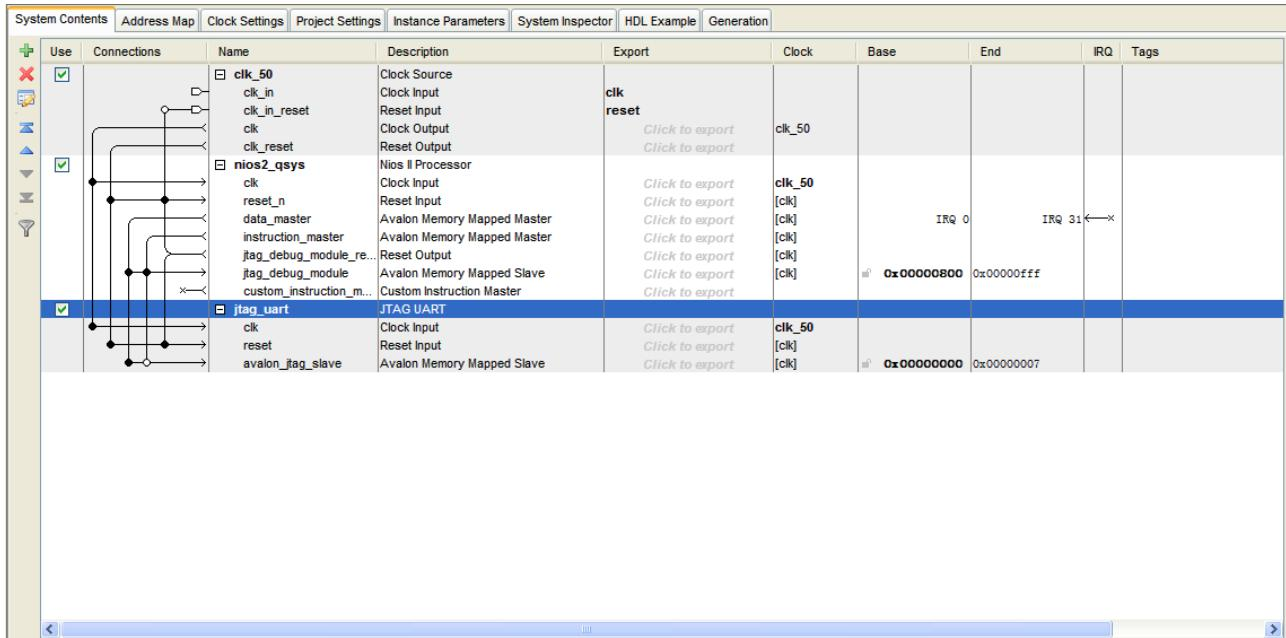

Figure 1-25 Connect JTAG UART
15. Connect the **clk** and **clk\_reset** and **data\_master** as shown in Figure 1-25.